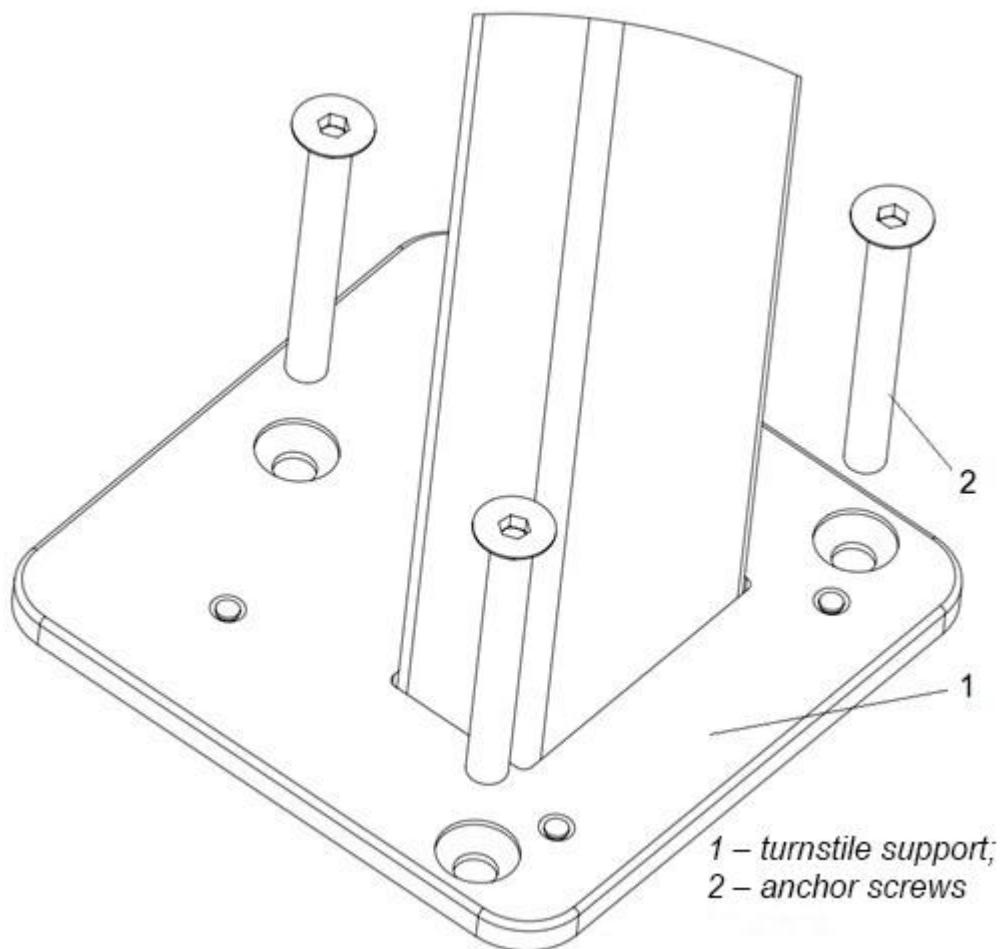

Figure 5 – Preparation to install the turnstile
4.2.8 Align the holes in the turnstile stand with the floor anchors (Figure 5 – 1).
Fix the turnstile stand with three screws (Figure 5 – 2) by screwing them into the appropriate anchors using S5 key for the screws with an internal hexagon.